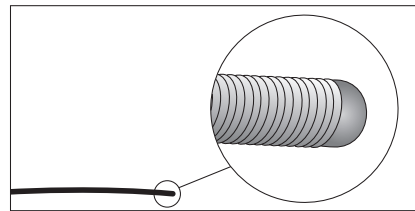

Figure 26
8. Examine tip of placement wire after removal to ensure wire has not been altered (refer to Figure 26).